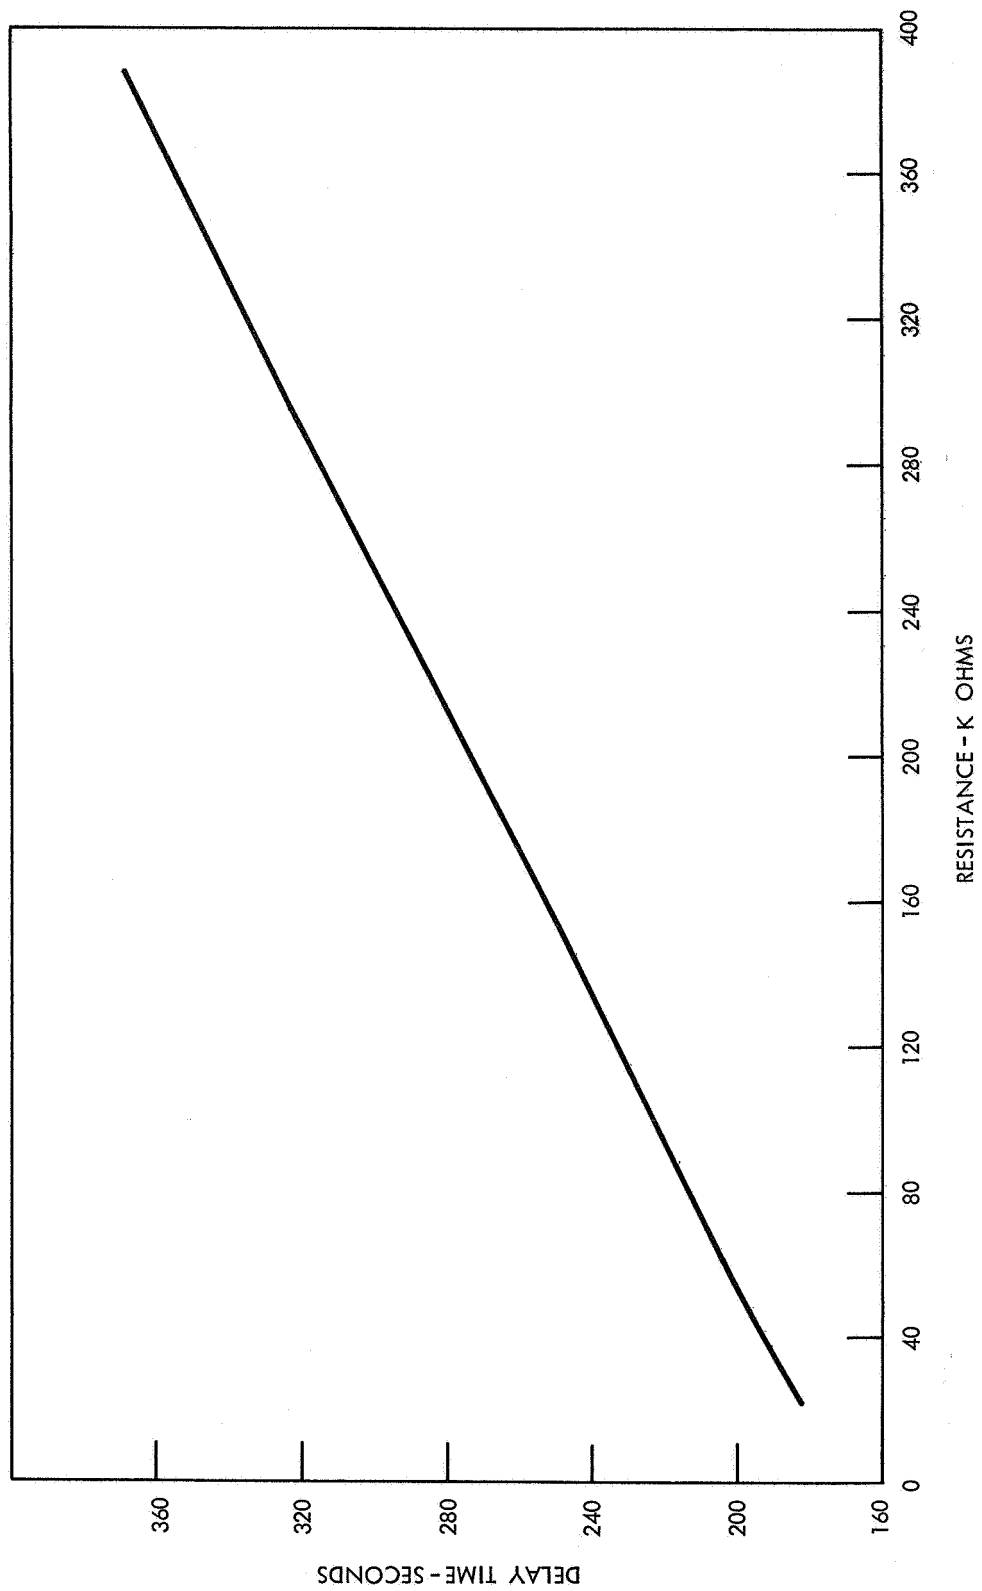

Figure 2-2. Timing Chart
- c. Using Figure 2-2, select a resistance corresponding to the required timer setting for first severance minus the time required to reach 50,000 feet (approximately 25 seconds) and record time and resistance.